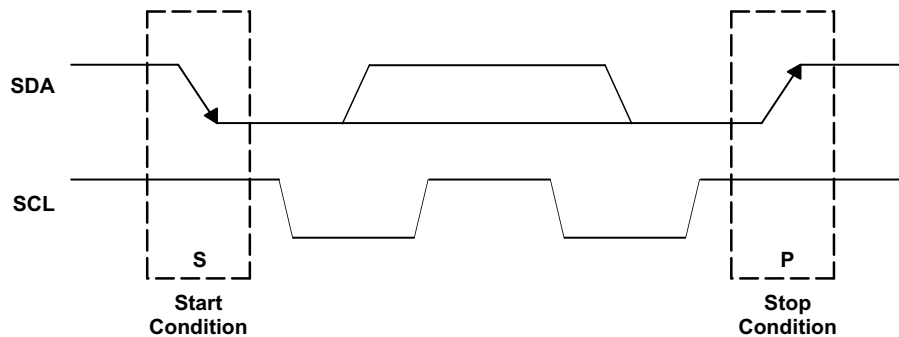

Figure 70. I²C Start and Stop Conditions
The basic I²C start and stop access cycles are shown in Figure 70.
- The master initiates data transfer by generating a start condition. The start condition exist when a high-to-low transition occurs on the SDA line while SCL is high, as shown in Figure 70. All I²C-compatible devices should recognize a start condition.
- To signal the end of the data transfer, the master generates a stop condition by pulling the SDA line from low to high while the SCL line is high (see Figure 70). This releases the bus and stops the communication link with the addressed slave. All I²C compatible devices must recognize the stop condition. Upon the receipt of a stop condition, all devices know that the bus is released, and they wait for a start condition followed by a matching address.